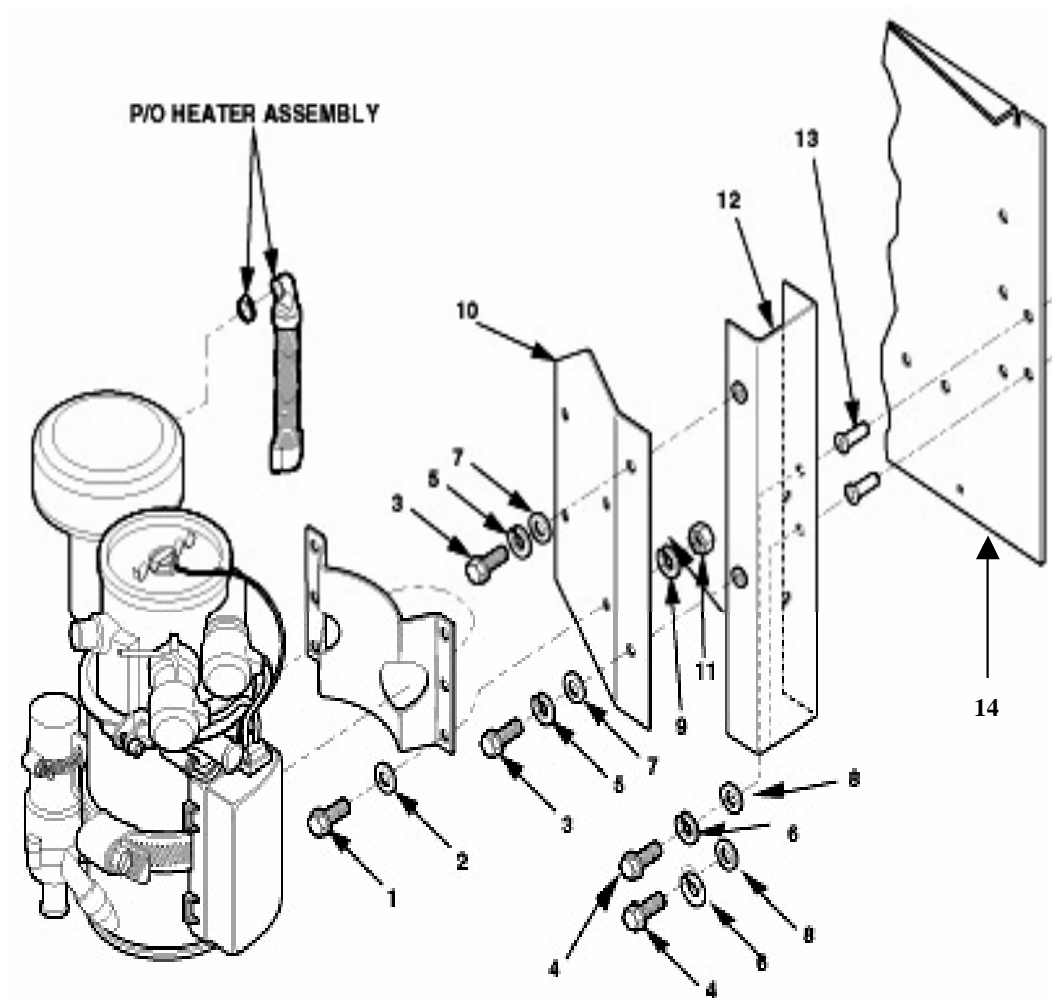

Figure 4-23. Heater Attachment Maintenance.
3. Support heater. Remove screws (1, 3, 4), Figure 4-23, washers (2, 7, and 8), nut (11), lock washers (5, 6, and 9) and heater from heater-mounting brace (10), then heater-mounting brace (10) from wall-mounting bracket (12), and wall-mounting bracket (12) and screws (13) from generator housing (14).
5. Install wall-mounting bracket (12) with screws (4, 13), lock washers (6) and washers (8) to generator housing (14).
6. Install heater to heater-mounting brace (10) with screws (1), washers (2), lock washers (9) and nut (11).
7. Install heater-mounting brace (10) to wall-mounting bracket (12) with screws (3), lock washers (5), and washers (7).